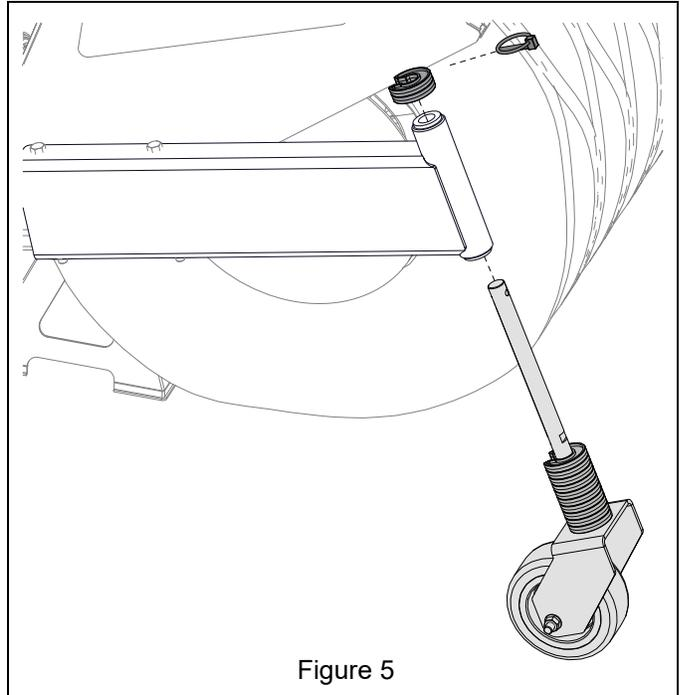

Figure 5
- Reinstall caster assembly and secure with lynch pin. Note number of height adjuster clips above and below caster arm. See Figure 5.